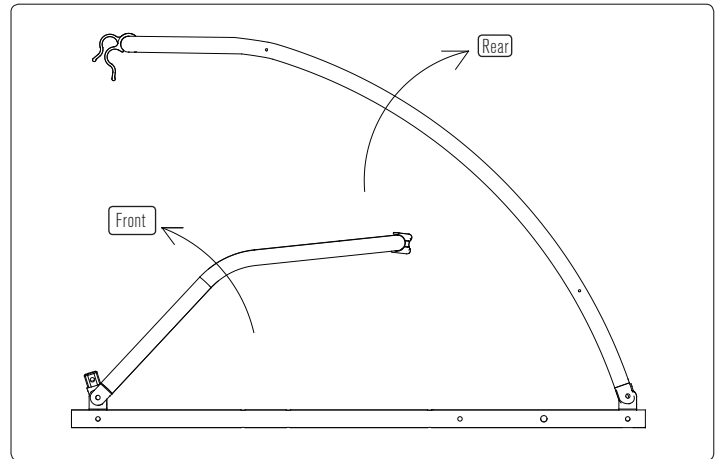

FIGURE 1
1. Rotate front tube upward and rear tube back until they meet on plastic saddles. **FIGURE 1**